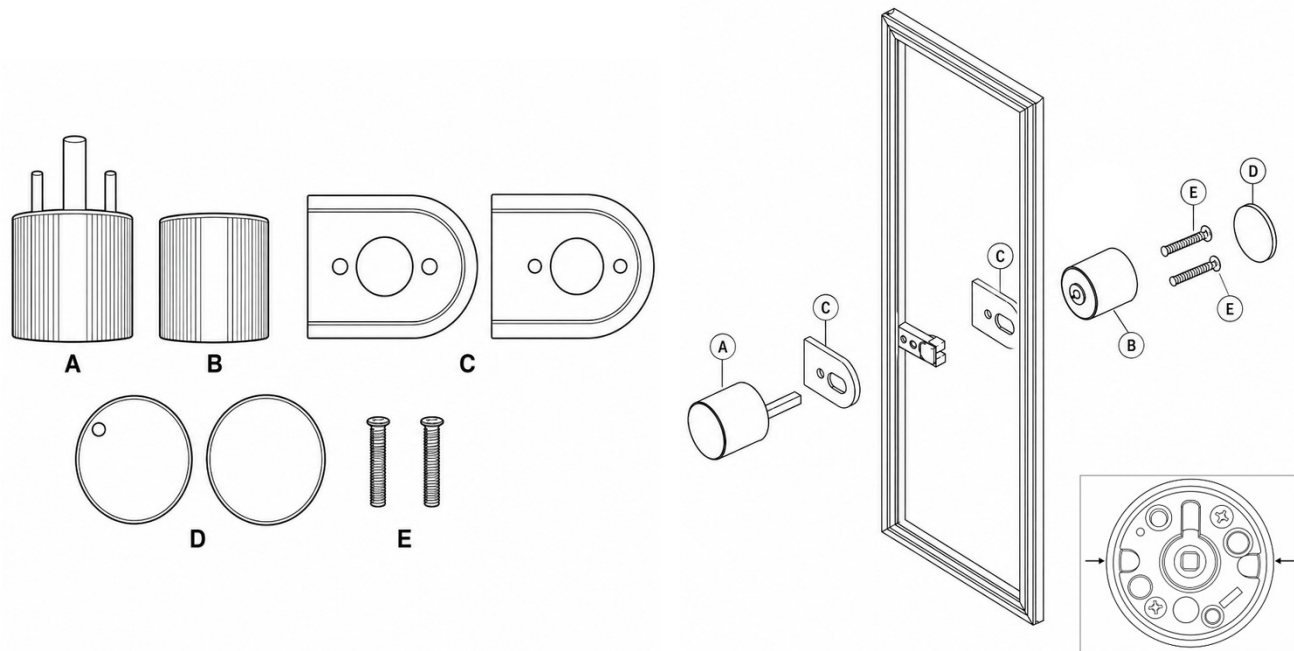

Figure 3. Door handle kit parts (left) and knob installation (right).
Parts (Figure 3): (A) exterior knob with attached spindle, (B) interior knob, (C) two latch cover plates, (D) two round knob covers, (E) two screws for the interior knob, and (F) two rubber knob covers, not pictured.